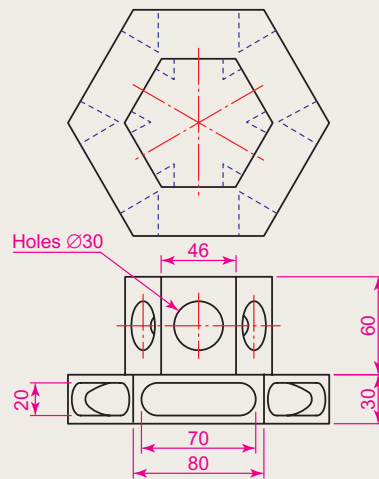
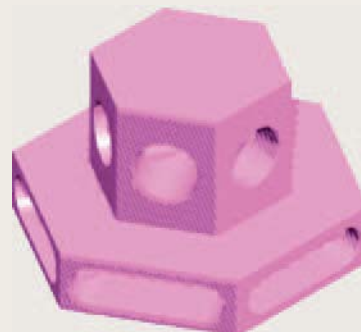

Fig. 17.35 Exercise 2 – details of shapes and sizes
Fig. 17.36 Exercise 2 – a rendering
2. The two-view projection (Fig. 17.35) shows a stand consisting of two hexagonal prisms. Circular holes have been cut right through each face of the smaller hexagonal prism and rectangular holes with rounded ends have been cut right through the faces of the larger. Construct a 3D model of the stand. When completed add suitable lighting to the scene. Then add a material to the model and render (Fig. 17.36).